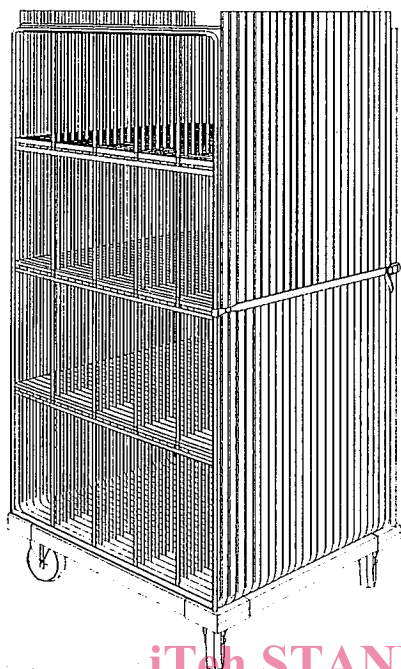

Figure 3a: Demountable style, side frame form roll container with sides stacked on their top edge
**3.1.2 Demountable style, side frame form:** Form incorporating demountable sides, where, for returning transport, the remaining bases or sides can be loaded on their edges within an erected roll container. Examples are shown in Figures 3a to 3d.